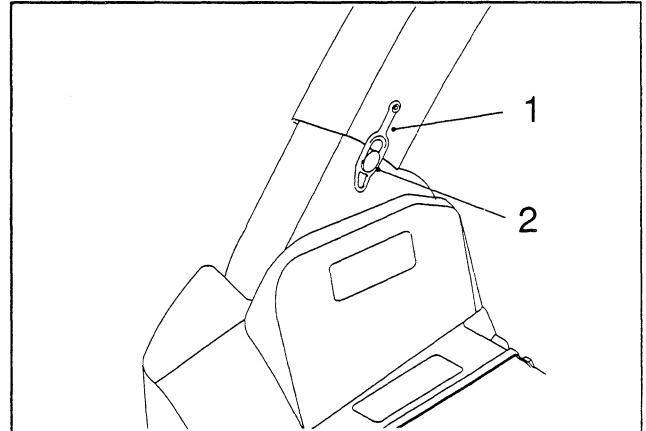

Figure 12
1. Insert the upper end of the discharge tube into the bagger top. Slide the lower end of the discharge tube over the blower discharge opening (Fig. 12).
2. Hook the rubber latch onto the blower knob (Fig. 12).